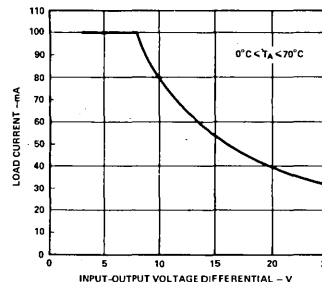

Figure 13. Maximum Load Current vs. Regulator Input-Output Voltage Differential
**Bridge Excitation (2B31):** The adjustable bridge excitation is specified to operate over a wide regulator input voltage range ( $+9.5\text{V}$  to  $+28\text{V}$ ). However, the maximum load current is a function of the regulator circuit input-output differential voltage, as shown in Figure 13. Voltage output is short circuit protected and its temperature coefficient is  $\pm 0.015\% V_{\text{OUT}}/^\circ\text{C}$  max ( $\pm 0.003\%/^\circ\text{C}$  typ). Output temperature stability is directly dependent on a temperature coefficient of a reference and for higher stability requirements, a precision external reference may be used.